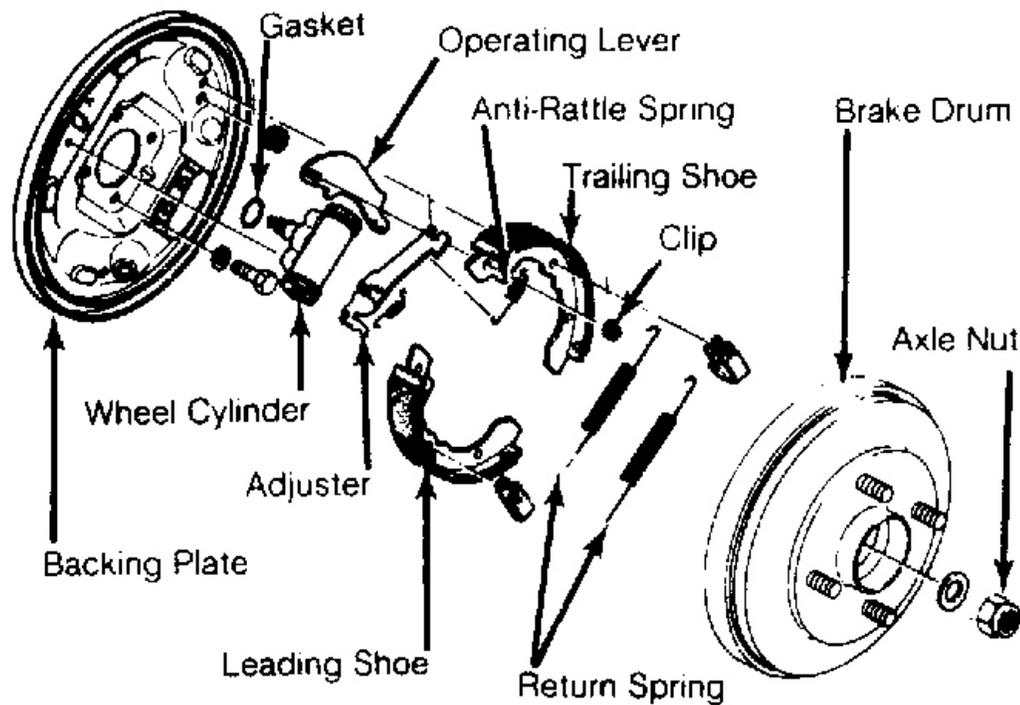

Fig. 18: View of Rear Drum Brake Assembly (Typical)
2. Remove return spring, anti-rattle spring, and leading shoe hold-down spring and pin. Remove leading shoe assembly. See **Fig. 18** . Minimum lining thickness is .04" (1 mm).